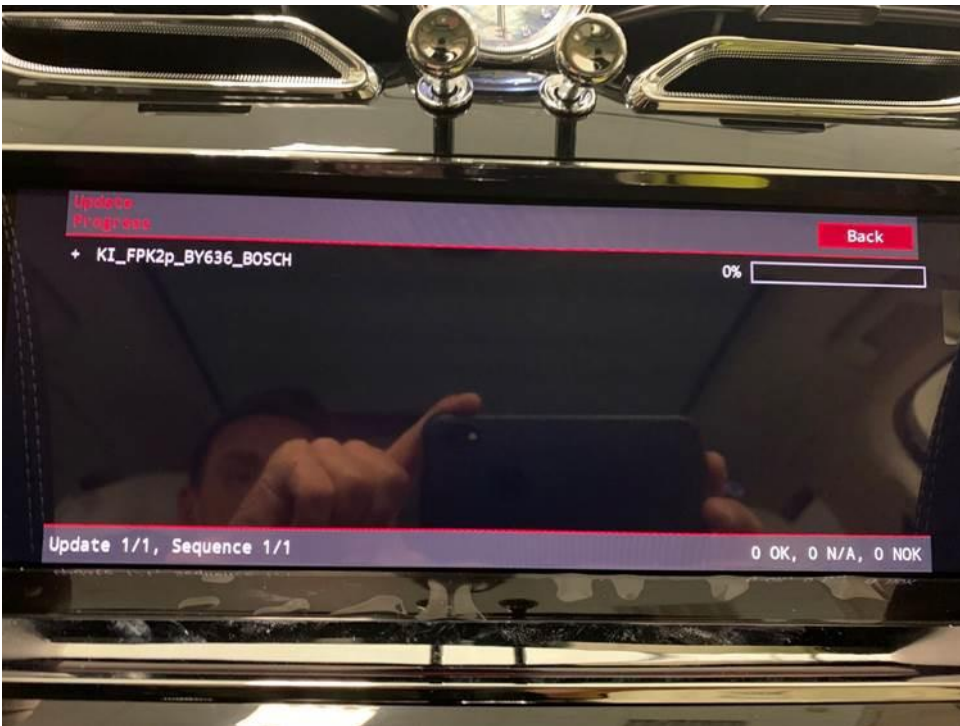

Figure 9
8. The software update will then begin (Figure 9)